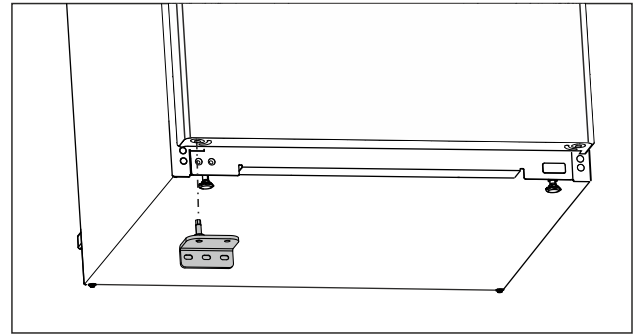

Fig. 25
- ▶ Insert the lower swap bearing block on the opposite side. (see Fig. 25)